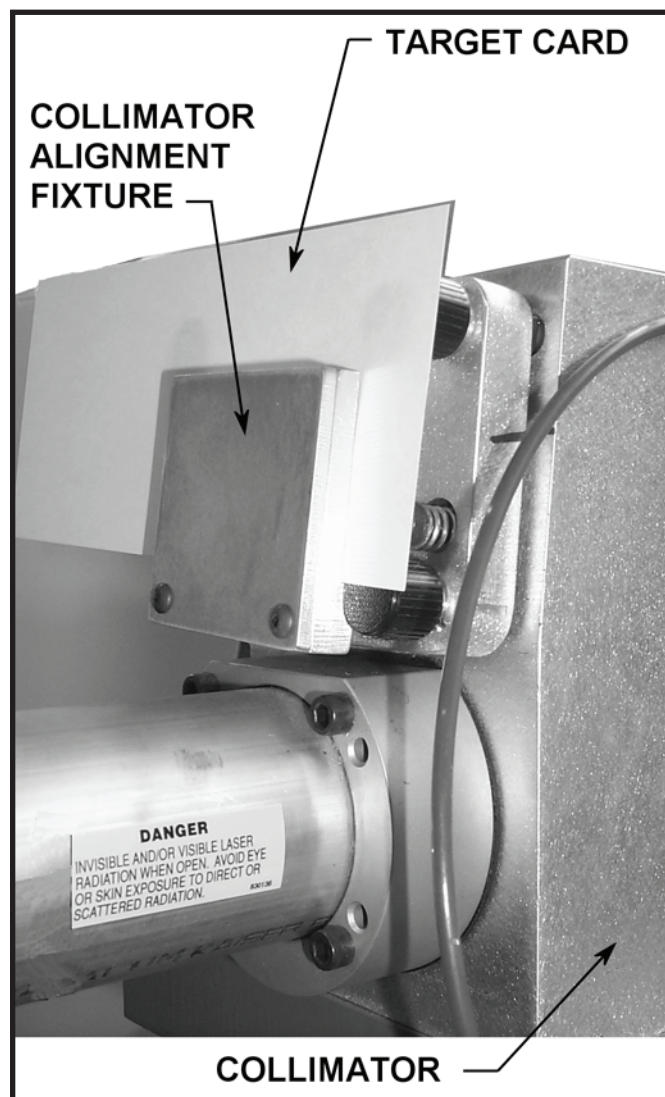

FIGURE 9-17 First collimator mirror alignment
2. Insert the collimator alignment fixture in the mirror mount completely and insert a target card. See Figure 9-17.